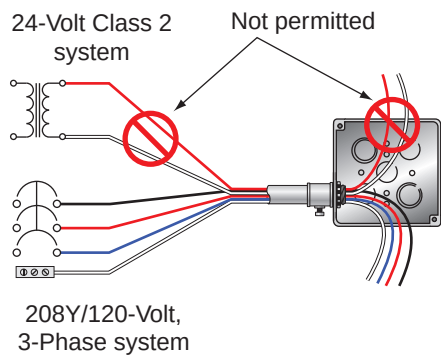

FIGURE 20-14 NEC 725.136(A) generally prohibits Class 2 circuits in the same raceway or cable as the wiring for light and power. (Delmar/Cengage Learning)
NEC 725.136(A) prohibits Class 2 circuits in the same raceway or cable as the wiring for light and power. See Figure 20-14.